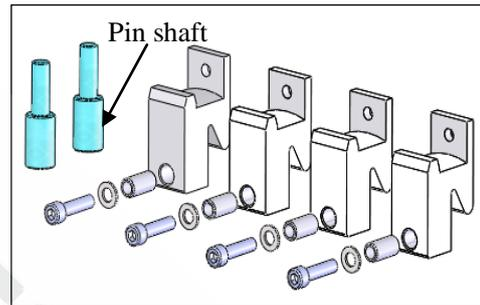

Fig8 Nylon protective
- 3 Nylon protective jaw, 4pieces (Fig8):